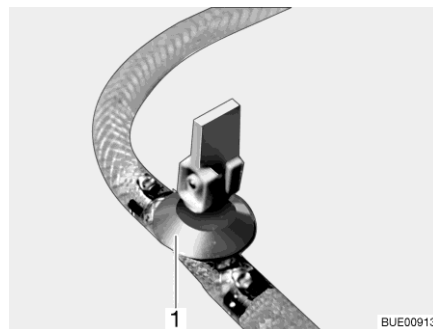

Fig. 165 Drain cock
- Close the drain cock(s). Position the rocking lever (Fig. 165,1) horizontally.
- Open drain cock(s) (Fig. 165). To do so, set the rocking lever (Fig. 165,1) in a vertical position. The boiler is drained to the outside.